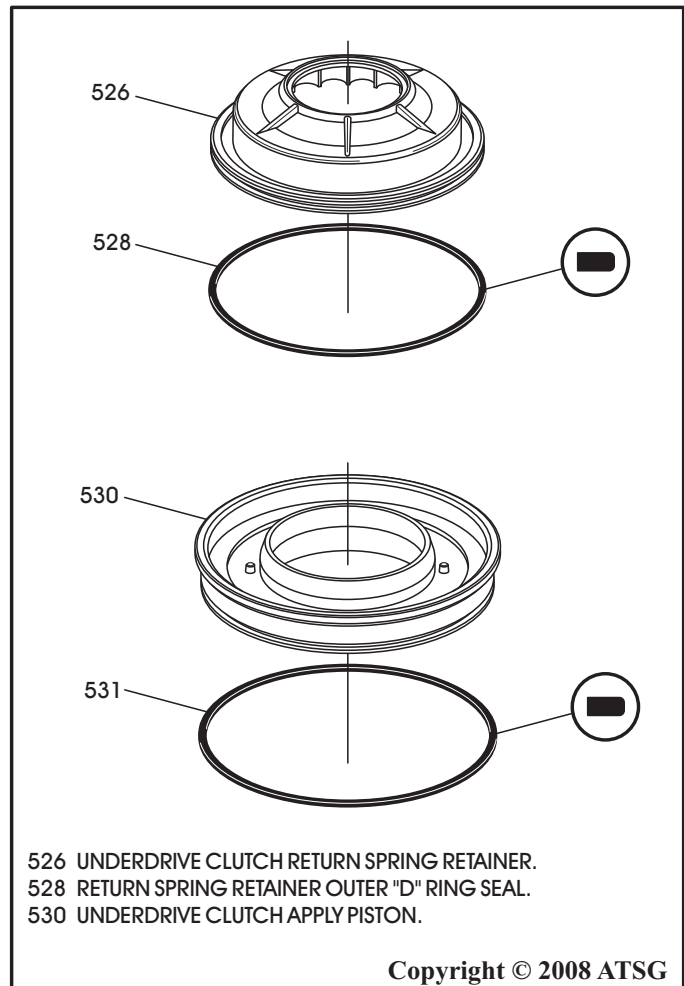

Figure 122
6. Install the outer "D" ring seal into groove of the underdrive clutch piston, as shown in Figure 122.
7. Install the outer "D" ring seal into groove of the underdrive clutch spring retainer, as shown in Figure 122.